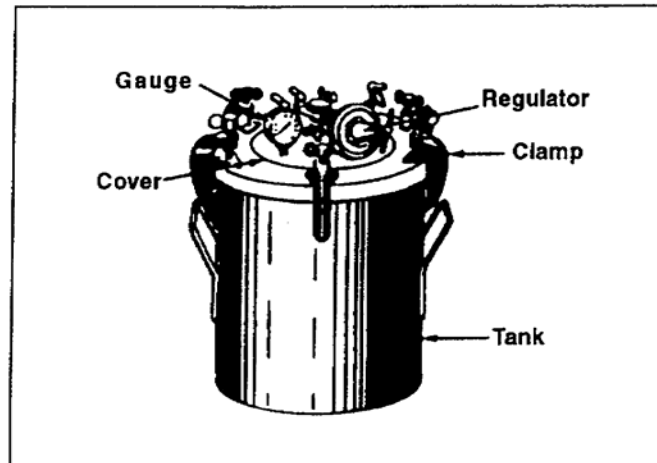

Figure 3-40. Pressure-fed paint tank
(1) A pressure-fed paint tank (Figure 3-40) is a large metal container that provides paint material at a constant flow and at uniform pressure to the spray gun. The spray gun is connected to the tank with two hoses, one for air and the other for paint material. The tanks range in size from a 2 to 60 gallons. The basic tank consists of a container with a clamp-on lid, an air-pressure regulator, and connections for fluid and air.